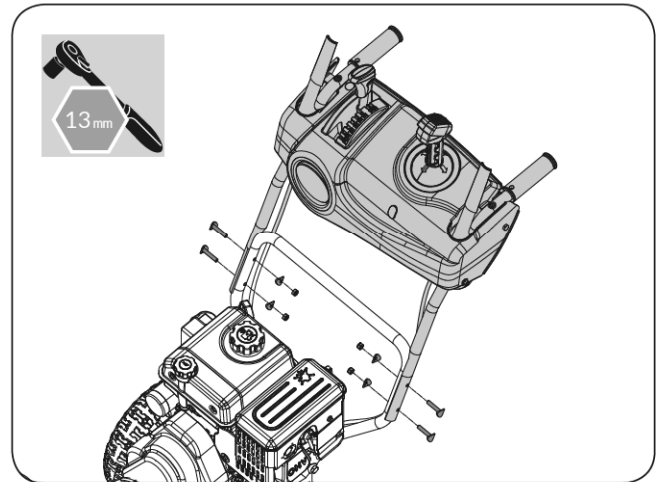

Figure 2b
5. Lift the upper handle to the operating position, then thread the four bolts and washers through the holes. Secure them by finger tightening the nuts. (See **Figure 2b**)